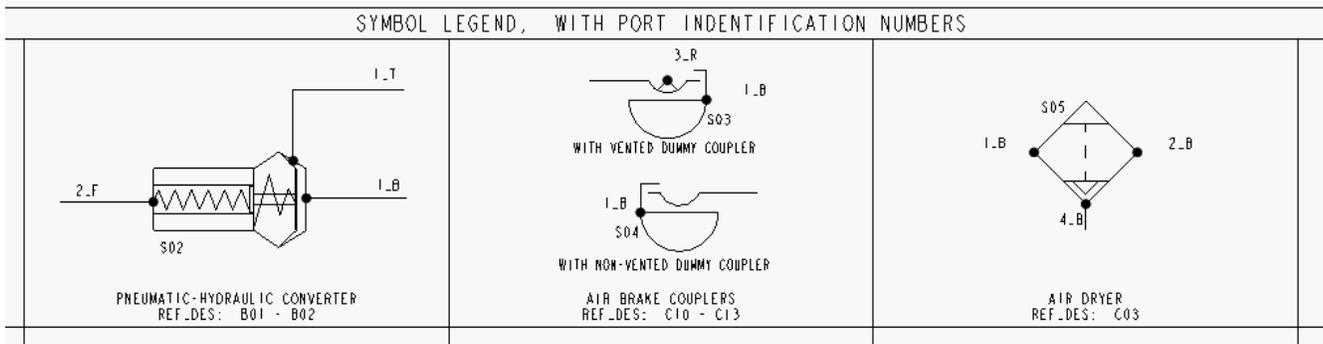

FIGURE 27: SYMBOL LEGEND EXAMPLE
- Symbol Legend; see Figure 27.